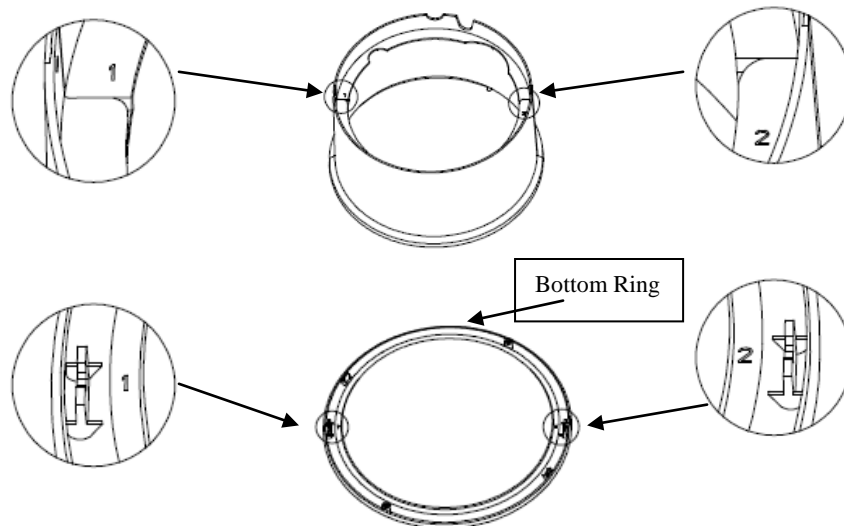

Fig 2a
- b) Align the assembled platform to the bottom stability ring as shown in figure 2a. Align the areas marked "1" and "2" on the platform with same areas marked "1" and "2" on the stability ring.